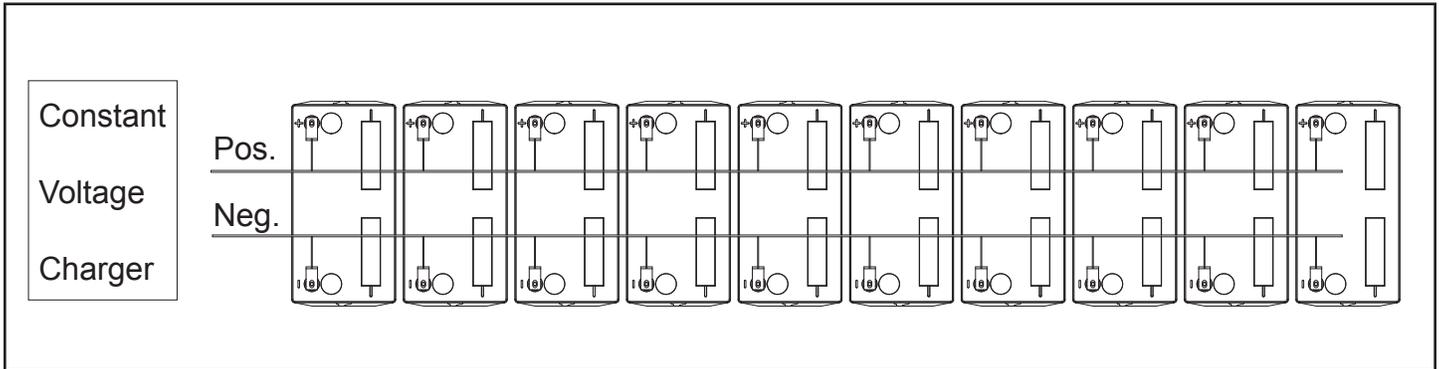

Figure 3
**Freshening Constant Voltage Charge** – VRLA batteries on open circuit should be given a freshening charge at 2.4 volts per cell (7.2 and 14.4 VDC for 3 and 6 cell batteries respectively) for 16 to 24 hours when the open circuit voltage has declined to 2.08 volts per cell (6.24 and 12.48 VDC for 3 and 6 cell batteries respectively) or every 6 months, which ever is sooner, to assure they incur minimal deterioration during periods of disuse. The constant voltage charging of several 12 VDC VRLA batteries in parallel is illustrated in Figure 3.